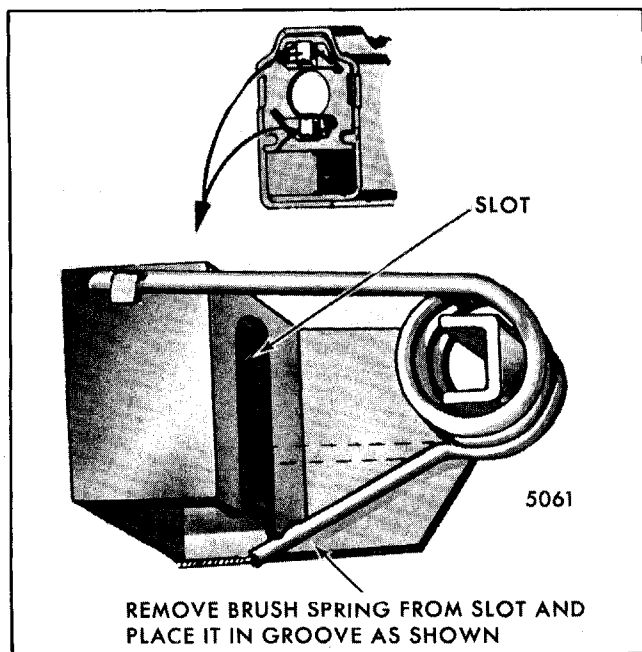

Fig. 2-40-Removing Brush Spring Tension
4. Turn motor section as required to gain access to brush plate assembly and release brush spring pressure against brushes (Fig. 2-40).